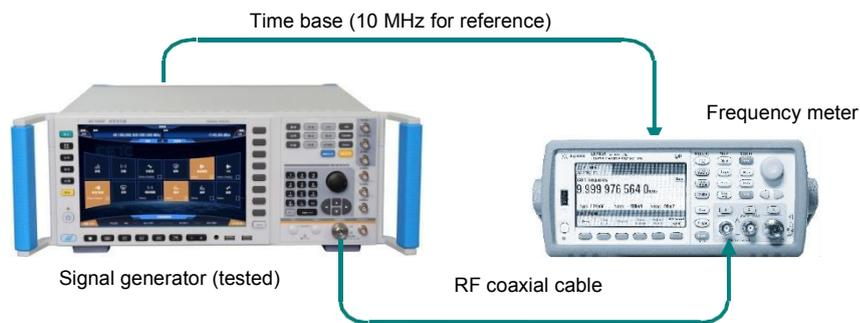

Fig.7.2 Frequency Resolution Test
**Step 2. Connect the device as shown in Fig.7.2.**